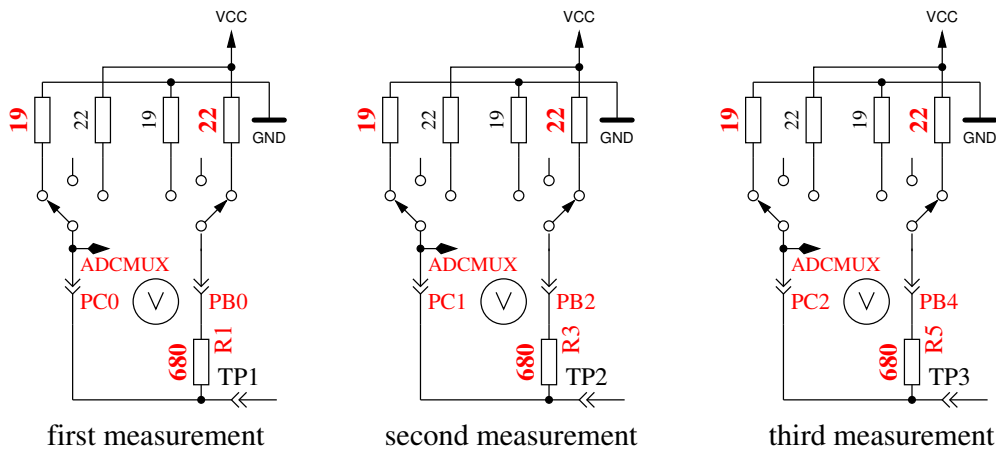

Figure 4.24: Measurement of internal resistance of Port C switched to GND
5. **This step tests the capability of GND (-) connected 470kΩ resistors (H) to pull the test pins to GND.** Row 1 shows the text “RH-”. Row 2 should display zero for all three pins.
6. **This step tests the capability of VCC (+) connected 470kΩ resistors (H) to pull the test pins to VCC (+).** Row 1 shows the text “RH+”. The best value for this three measurements is 5001. Great differences from the best value for test 5 and 6 are errors such as isolation problem, flux material or damaged port.
7. **Measuring of internal resistance of pin output switched to the GND signal.** The text in the 1st LCD row is “Ri.Lo = (mV)”. In the second row of the LCD three voltages were displayed. The internal resistance of the port C outputs switched to GND (-) are measured with the current of to VCC (+) switched 680Ω resistors, see Figure 4.24. Only the three pins of the ADC port are measured, the resistor port B (PB0, PB2 and PB4) can not be measured without hardware modification. It is assumed that the port resistance of the different ports are nearly identical. To get the resistor values, you must divide the displayed mV values by about 7 (see test 8).